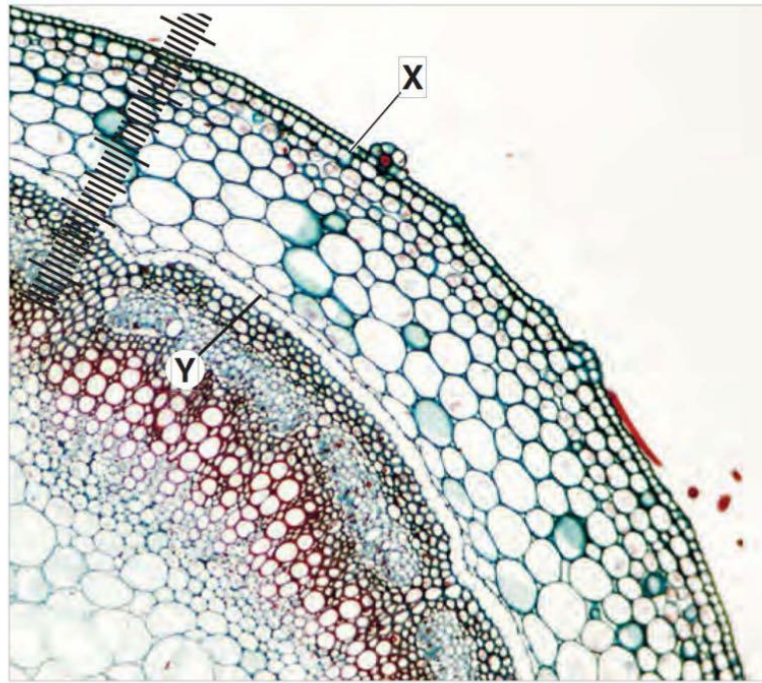

**Fig. 1.2**
Fig. 1.2 is a photomicrograph showing part of an organ from a plant of a different species.
- (ii) Fig. 1.2 shows a photomicrograph taken using the same microscope with the same lenses as Fig. 1.2.
Use the calibration of the eyepiece graticule unit from (b)(i) and Fig. 1.2 to calculate the actual length of the plant tissue from X to Y.